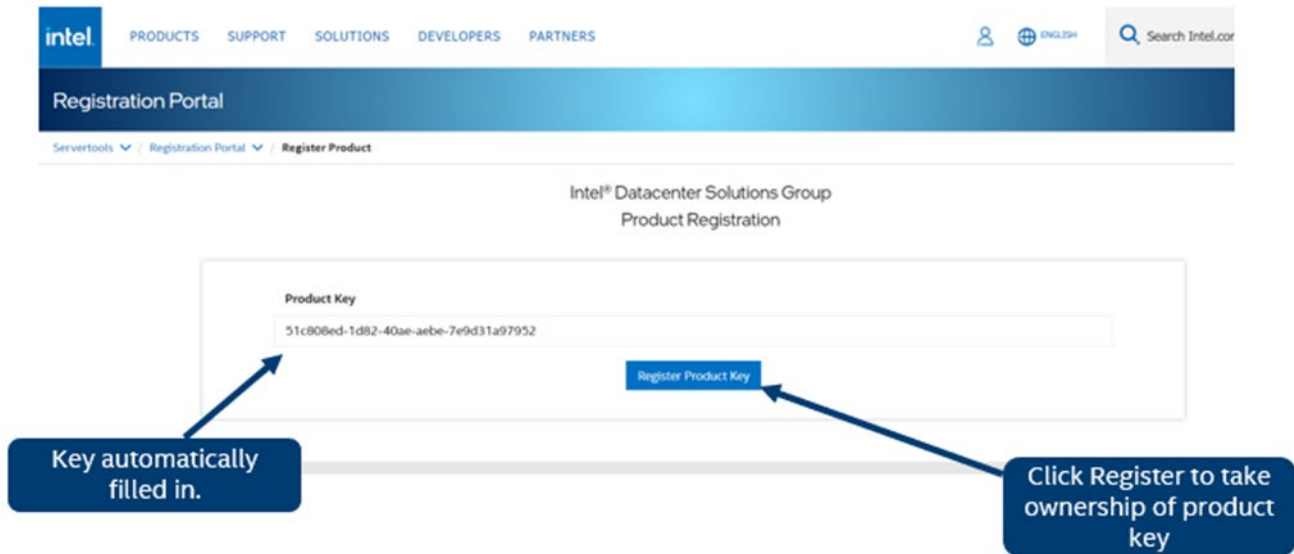

Figure 106. Register Key
- On the Registration Screen, Click the “Register Product Key” button to register the pre-entered license key number. (see Figure 106)